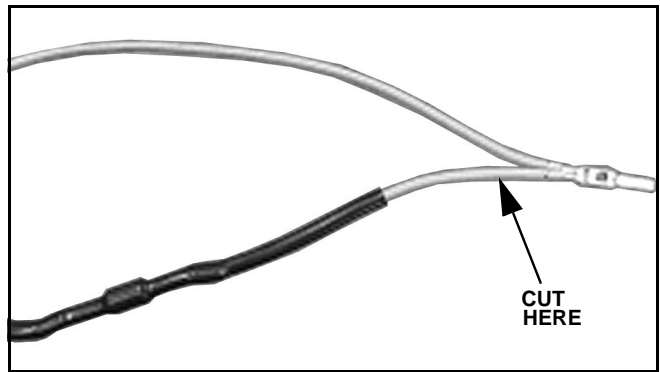

Figure 5
7. Remove gray wire containing diodes from adapter by cutting wire just behind the terminal crimp (See Figure 5.). The idea is to eliminate the diode kit from the adapter harness.